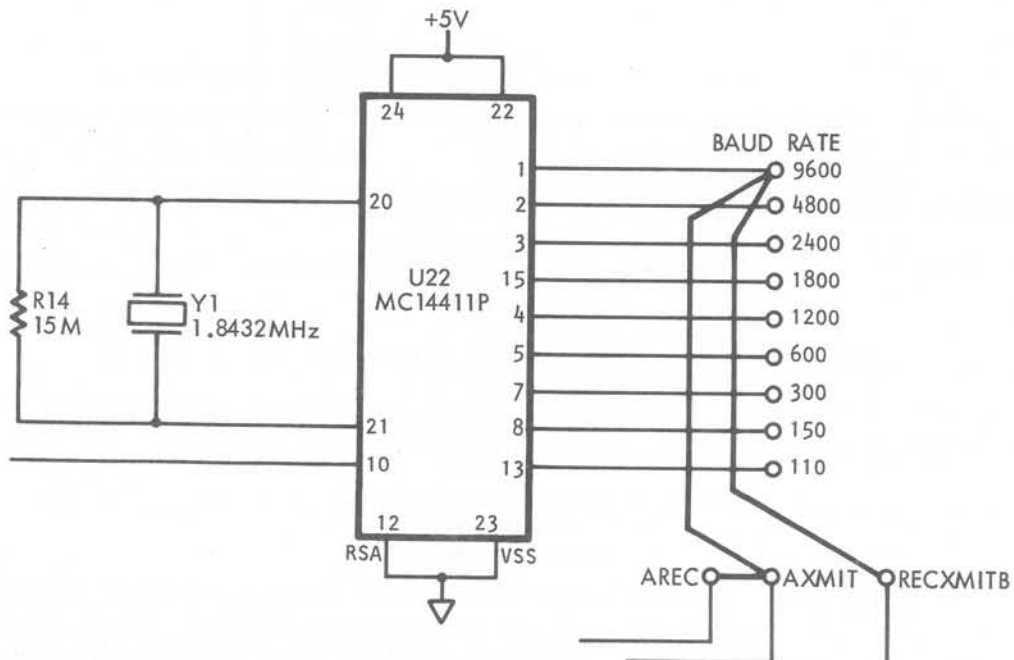

Figure A-12. Selecting the Baud Rate
1. Cut the circuit card stripe labeled W1, for Channel A, and/or W3, for Channel B, see Figure A-12.
1. Cut the circuit card stripes labeled W1 and W2 in Figure A-12.